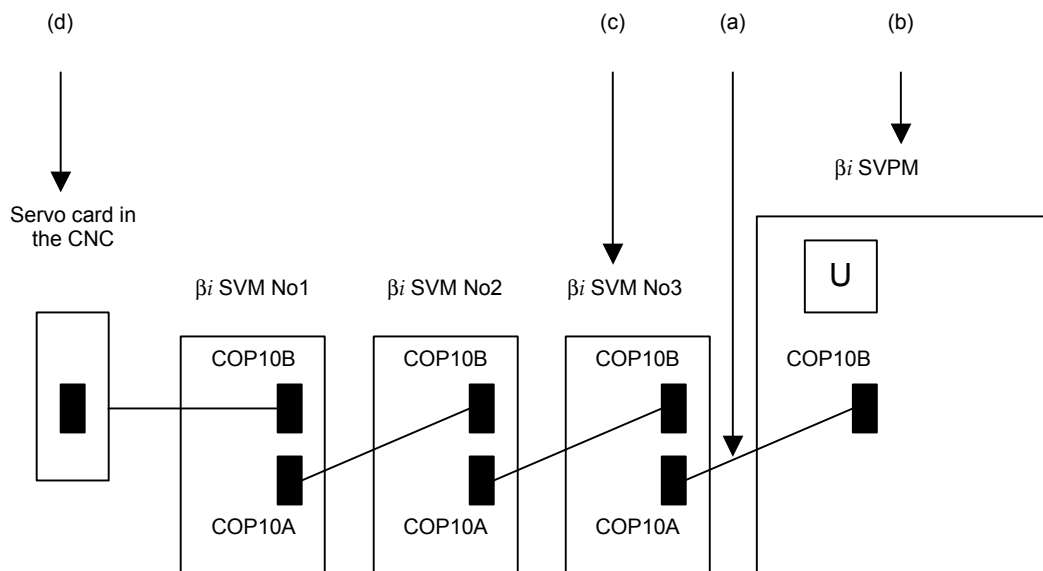

Fig. 3.2.8
(2) Cause and troubleshooting
- (a) Replace the βi SVM optical cable (COP10B) that is nearest to the βi SVPM on which "U" is displayed (in Fig. 3.2.8, the cable between βi SVM No.3 and βi SVPM).
- (b) Replace the βi SVM that is nearest to the βi SVPM on which "U" is displayed (in Fig. 3.2.8, βi SVM No.3).
- (c) Replace the COP10B-side βi SVM that is nearest to the βi SVPM on which "U" is displayed (in Fig. 3.2.8, βi SVM No.2).